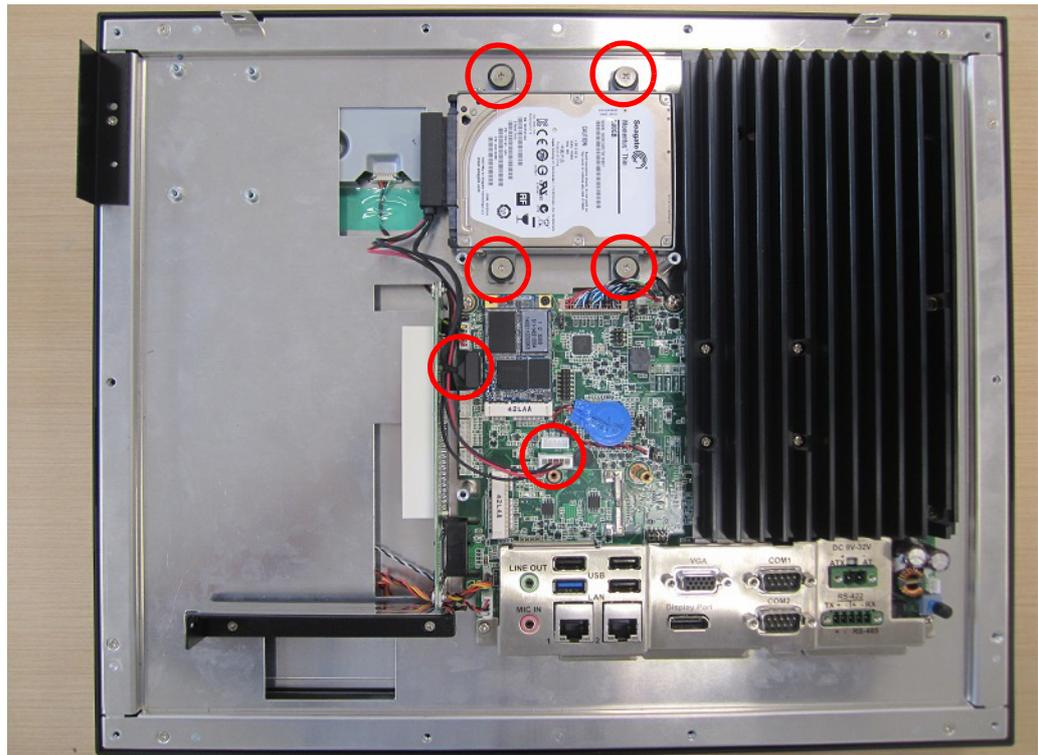

Figure 2.13
5. Reconnect the HDD bracket, and connect the data cable to the mainboard. (See Figure 2.13)